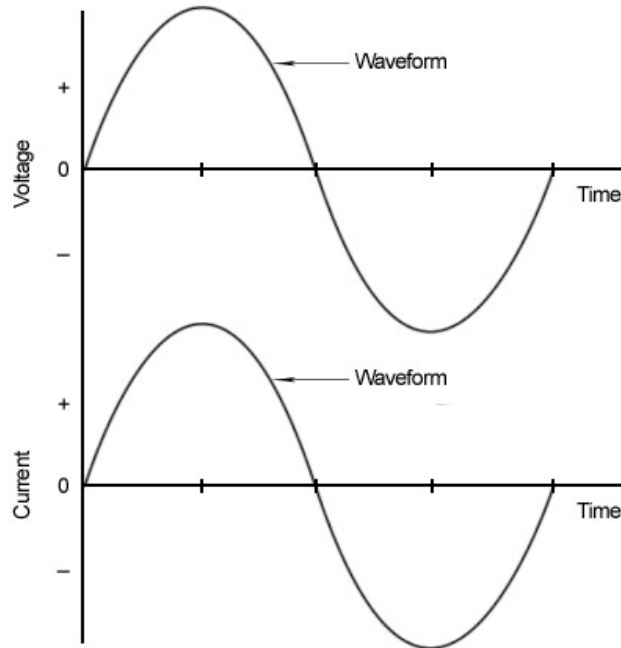

Fig. 3: In Phase Voltage and Current Signals
when the voltage and current are “lined up” with one another. The peaks and zero points on the waveform for voltage and current occur at the same time (fig 3). When this happens, the two signals are said to be “in phase” with one another. Two waveforms are said to be “out of phase” or “phase shifted” when the two signals do not match up from point to point. So when are the voltage and current in phase? What causes them to shift so that they would be out of phase? This has to do with the circuit components involved in the system. Due to the behavior of voltage and current in AC circuits, power is a quantity that comes in several different flavors.
A resistor causes no shift between current and voltage (a zero degree shift – shown in fig. 3). Power that is the result of a purely resistive load is known as “true” power. It is the power that performs work in the circuit and it is measured in Watts (W). This is the power that will drive a circuit board or a motor. It is the desired outcome of an electrical system.